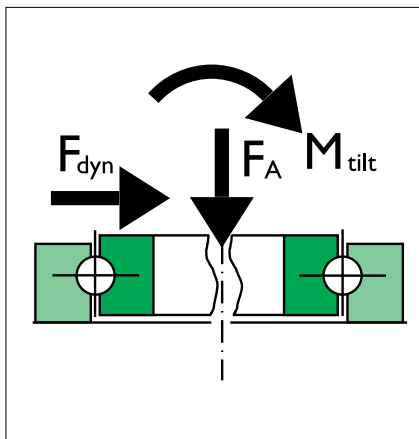
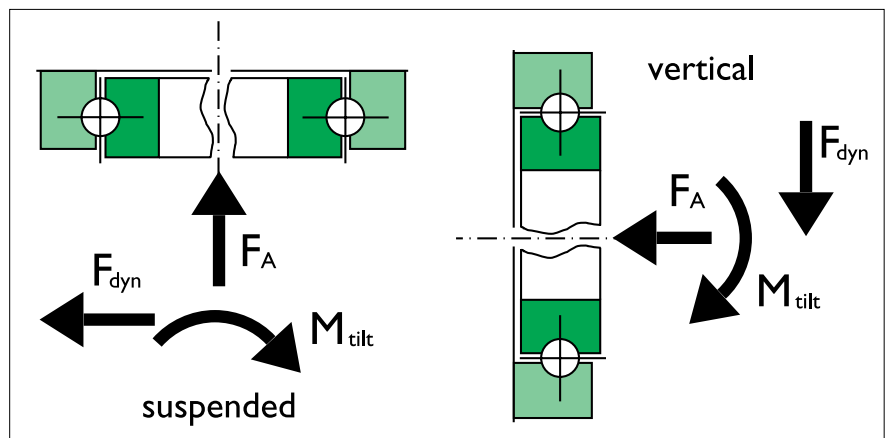

Fig. 1
Fig. 2
2. The loads must be positive with the configuration shown in Fig.1 and Fig.2 of this page, to be in valid conditions for the load curves;